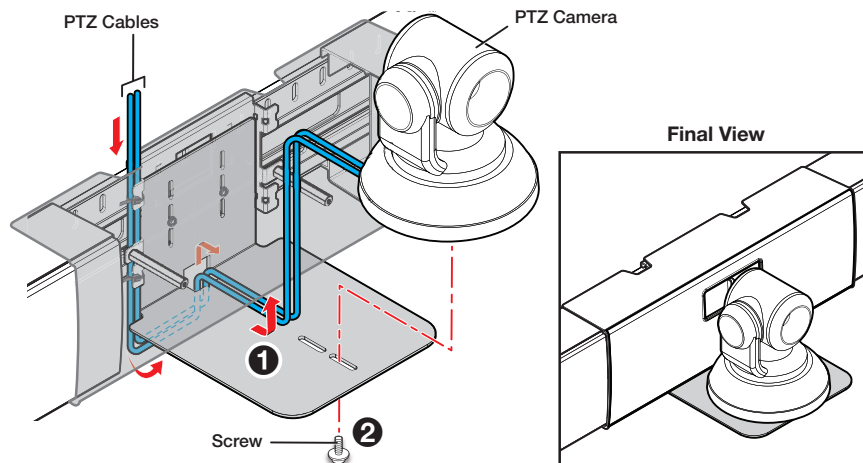

Figure 29. Attaching the PTZ Camera to the Shelf
5. Route the cable to the PTZ camera (figure 29, ❶) and attach it to the camera.
6. Place the camera on the shelf and attach it to the shelf with the mounting screw (❷).